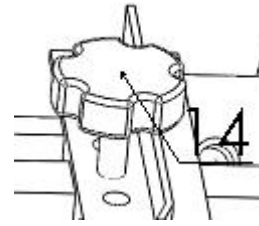

Figure 3
3. Loosen the Plum Knobs on the Feed Clamp (15) Fig. 3 and the Stock Clamp (14), then insert the Braiding Capacitor (Braided Tape) into the Feed Clamp Track so that each of the small holes aligns with the Round Tip on the Hanging Wheel, adjust the distance between the Feed Clamp and the Stock Clamp to be a little wider than the Braided Tape, but not wobbling too much from side to side, and then tighten the Plum Knobs.